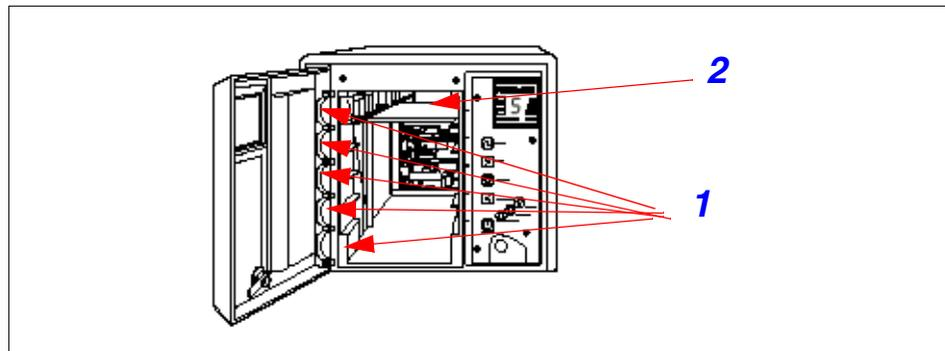

Figure 5-2 IBM 3581 cartridge slots
- ▶ Five cartridges in the front, slots 1 through 5 (referred to as front slots; see label 1 in Figure 5-2)
- ▶ Two cartridges in the rear, slots 6 and 7 (referred to as rear slots; see label 2 in Figure 5-2)
**Note:** Installing feature #7004 reduces the autoloader capacity to six data cartridges. The barcode reader connects to the interface connector on the inside top panel of the IBM 3581. This location prevents you from using cartridge storage slot 1 (see Figure 5-2 on page 97). When you install the barcode reader, you reduce the capacity of the autoloader to six cartridge storage slots. The front storage slots are still numbered 1 through 5, but the autoloader's menu functions and the server's application software cannot select or use slot 1.
This is illustrated by observing that, with the barcode reader installed, the operator LOAD SLOT function uses storage slots 2 and 3 as the cartridge source locations to load slots 6 and 7; without the barcode reader installed, the LOAD SLOT function uses storage slots 1 and 2 as the source locations. See Figure 5-2 on page 97 for slot locations.